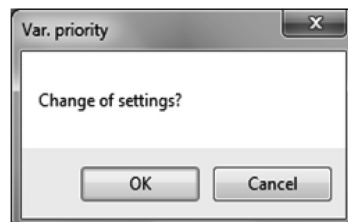

Fig.74
- ④ After all settings are complete, click the "OK" button to display a message box (Fig. 74).